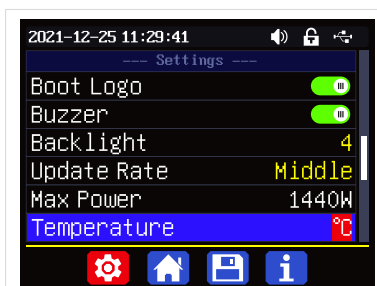

figure 6
**Temperature** unit is  $^{\circ}\text{C}$  by default, it can be switched between  $^{\circ}\text{C}$  and  $^{\circ}\text{F}$  (figure 6);